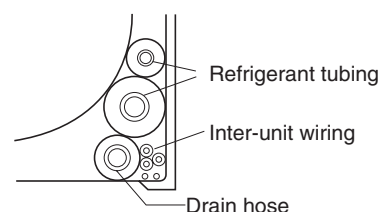

Fig. 1-47
- (5) Assemble the refrigerant tubing, drain hose and inter-unit wiring as shown in Fig. 1-47.